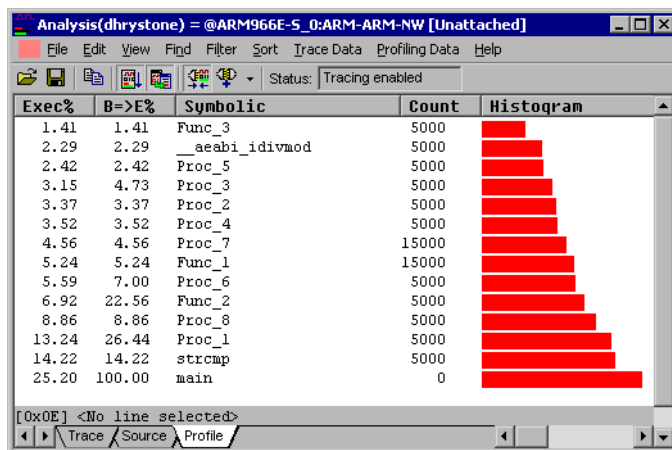
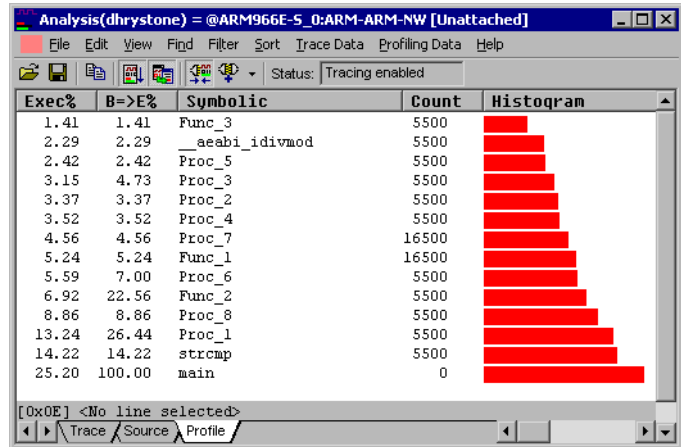

Figure 2-50 Results displayed in the Profile tab
Figure 2-53 Summing profiling data over multiple runs
9. In the Analysis window, click the **Profile** tab to display the profile data, as shown in Figure 2-50 on page 2-153.
In the **Profile** tab, as shown in Figure 2-50, the execution times for all functions accessed during the for loop are displayed, and a graphical representation of their respective execution times is shown in the **Histogram** column. For details on the types of information displayed in each column, see *Columns* on page 2-78.
5. Enter 500 for the number of runs through the benchmark. The profiling data is updated as shown in Figure 2-53 on page 2-156.
Compare Figure 2-53 with Figure 2-50 on page 2-153. The summing of profiling data reveals the following information: